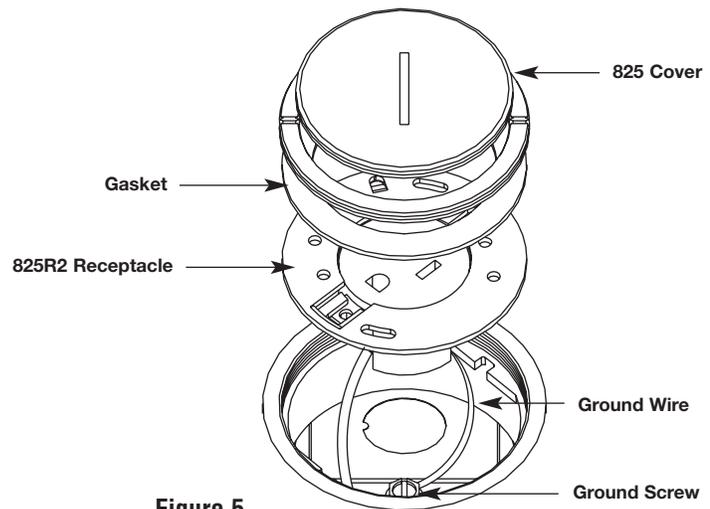

Figure 5
3. Remove cover and gasket. If required, connect receptacle unit to the adjusting ring. Wire device in accordance with the National Electrical Code or any local code that applies. Make sure the ground lead is connected to the ground screw before securing receptacle to adjusting ring (see Figure 5). Install gasket and cover plate (see Figure 5).